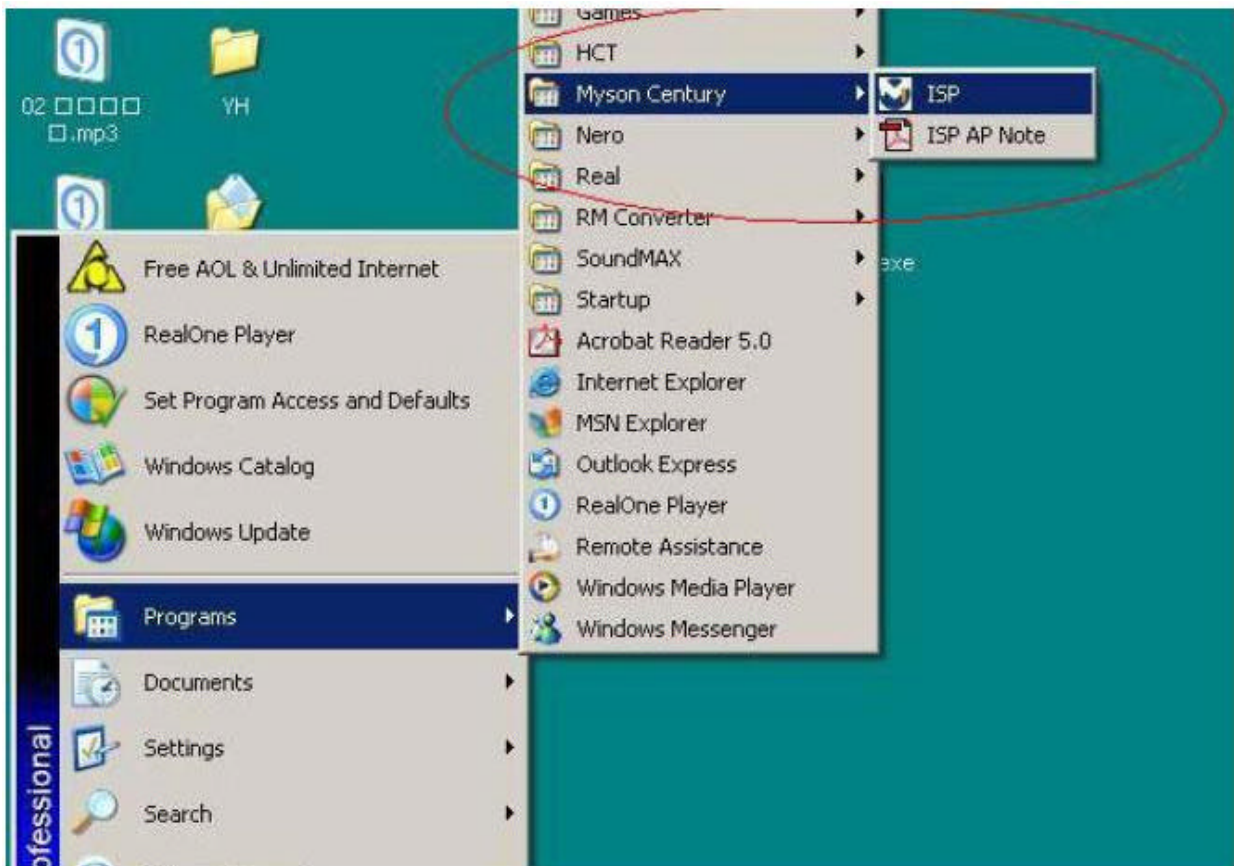

Fig. 2.1
2.1 After installation , we could find the shortcut in the setting path or the program bar (default setting) , see Fig 2.1